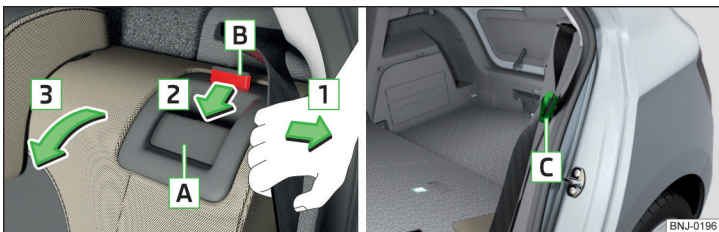

Fig. 70 Fold seat backrest forwards / standby position of the seat belt
- ▶ Pull the outer seat belt to the side panel in the direction of arrow **1** » Fig. 70.
The belt tongue of the outer seat belts **C** can be inserted into the side panel. Ready position » Fig. 70.